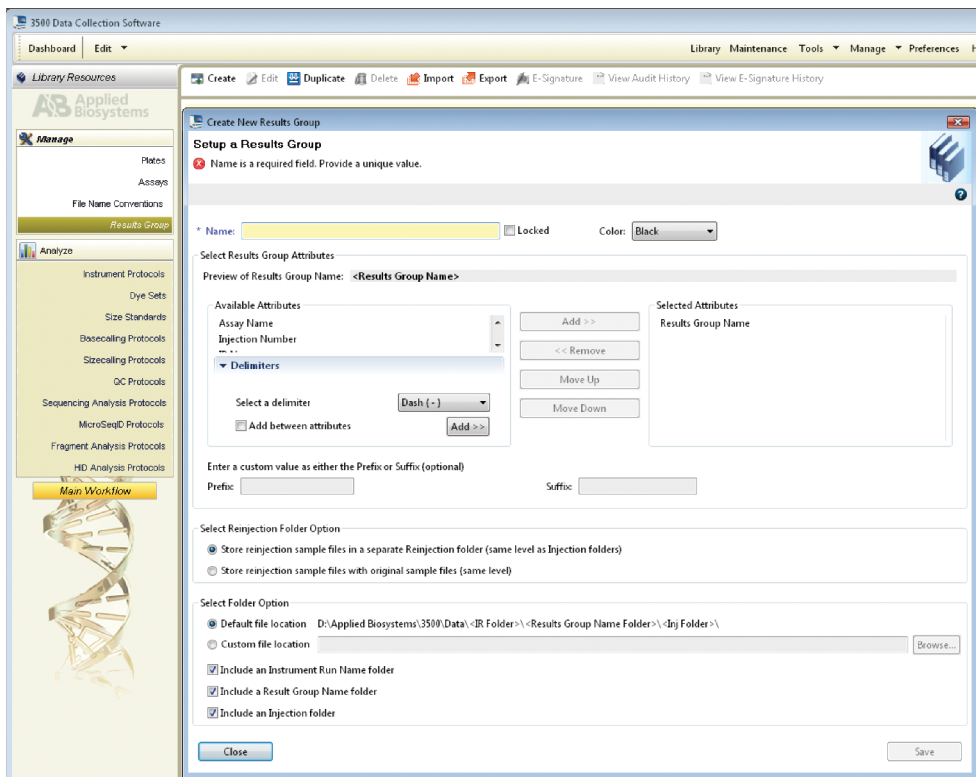

Figure 7. The 'Create New Results Group' window.
- 2.f. To create a new Results Group (Figure 7), navigate to the Library. Select **Results Group**, and then select **Create**. Alternatively, a previously created Results Group can be used.